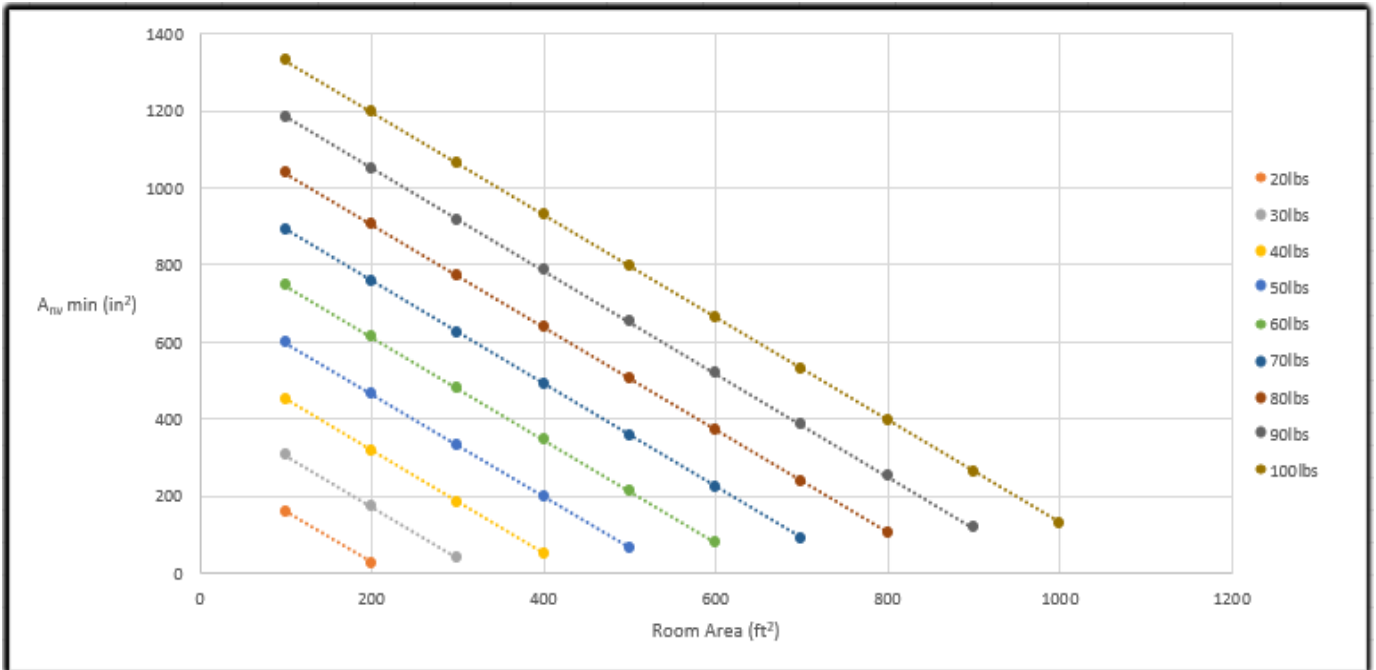

Figure 3: Chart GG.7 - Required Opening (in^2) per Given Room Area (ft^2)
- The minimum opening area for natural ventilation shall not be less than Anv_{min} . Chart GG.7 Figure 3 below shows the required opening per the given room area for various refrigerant charges.